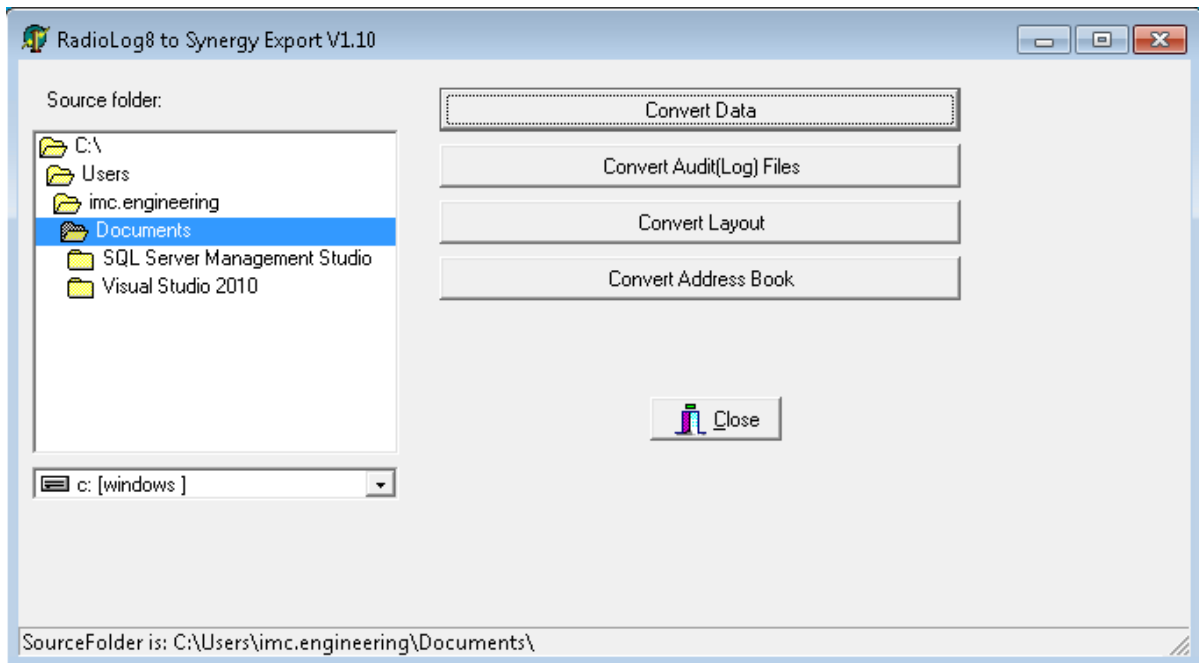

Figure 143
2. Click the **RL8 to XML** button. The RadioLog8 to EMS Vx.xx window is displayed. See Figure 143 below: